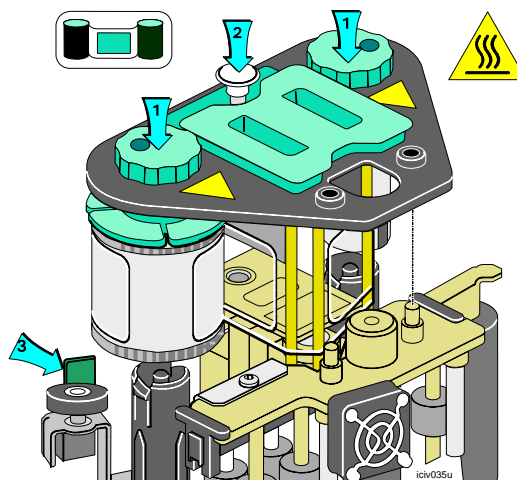

Figure 4-10: Replace the overlay cartridge
- 3 Lower the overlay cartridge into the printer (step 1 in Figure 4-10). Make sure the supply material passes between the heated roller and the platen roller. Turn the supply knobs if needed to take up slack so the material does not wrinkle as the cartridge is pushed in place.
- 5 Press the cartridge lock to secure the overlay cartridge in the printer (step 2 in Figure 4-10).
- 6 Move the supply tracker toward the full supply roll until it rests on the supply roll (step 3 in Figure 4-10).